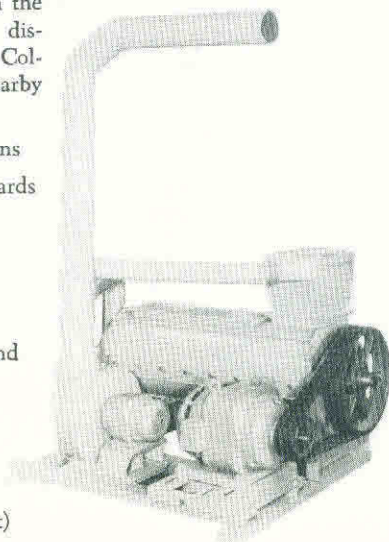

Fig. 4 Direct Drive
- The Clipper Debearder Dust Collecting System consists of a tailored vacuum dust pick-up arrangement and a collector. It adds to the **convenience, safety and quality** of production. The system is optional. See Figs. 4 and 5.